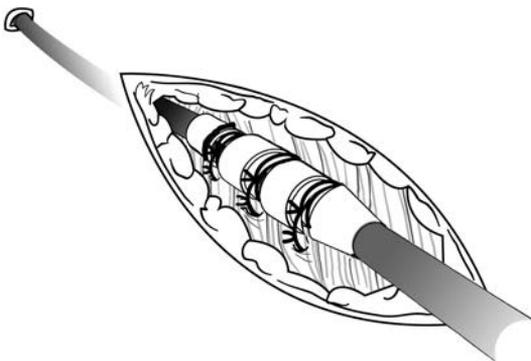

Figure 12. Example of suture sleeve, percutaneous implant technique
1. Peel back the introducer sheath and slide the suture sleeve deep into the tissue (Figure 12 Example of suture sleeve, percutaneous implant technique on page 31).